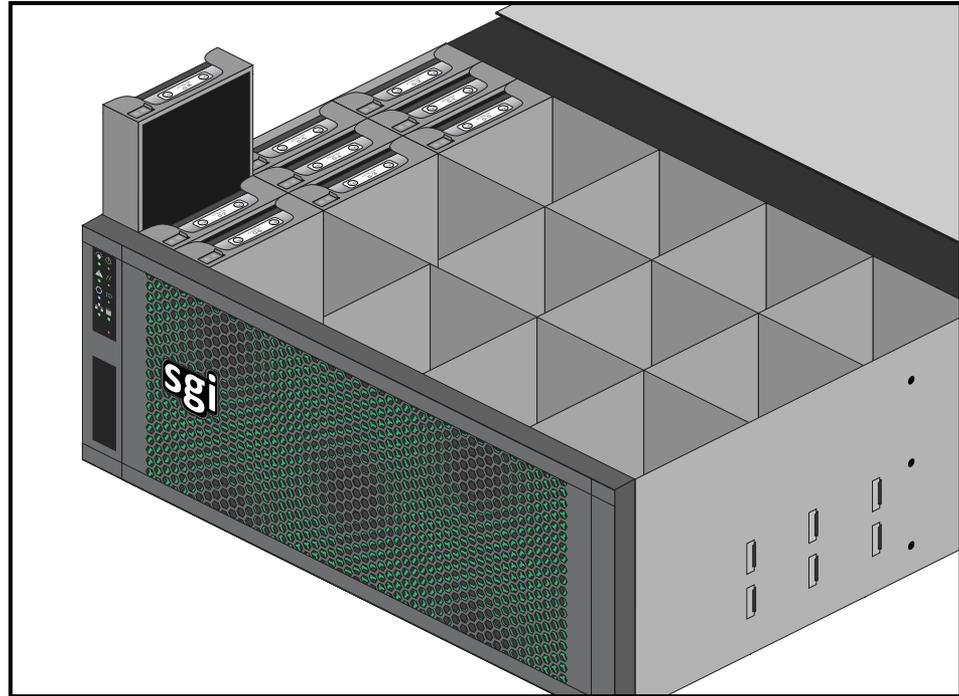

Figure 2-14 Drive Installation in StorBrick Module Example
4. Place the corresponding drive into its drive slot and press firmly into the StorBrick, see the example in Figure 2-14 on page 27. You will know the drive is in place when the latch on the top of the drive carrier snaps into place.